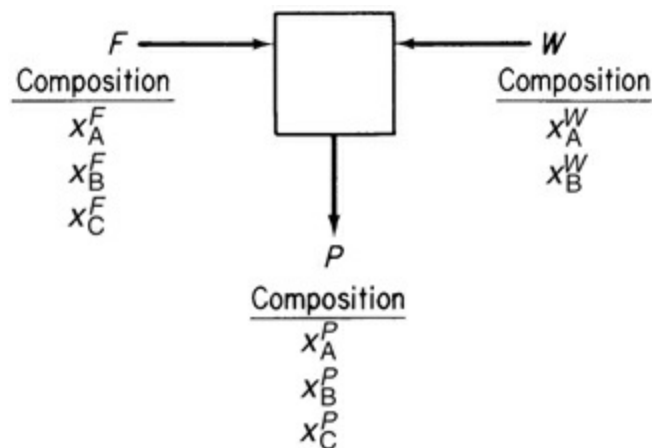

Figure P3.3.12
- **3.3.12** You have been asked to check out the process shown in Figure P3.3.12. What will be the minimum number of measurements to make in order to compute the value of each of the stream flow rates and stream concentrations? Explain your answer.